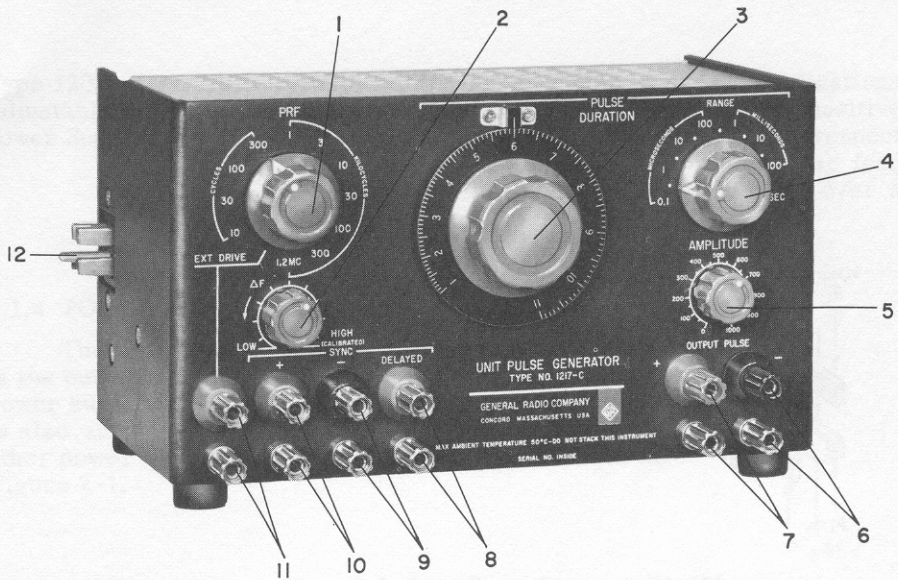

Figure 1-1. Type 1217-C Unit Pulse Generator.
See Figure 1-1 and Table 1-1 for the location and the description of the controls and connectors used on the Type 1217-C.
Pulse repetition frequency is adjusted by the PRF controls (1 and 2, Figure 1-1), over a range of 2.5 cps to 1.2 Mc. The PRF switch is calibrated to indicate prf correctly only when the  $\Delta F$  control is fully clockwise. When the  $\Delta F$  control is fully counterclockwise, the prf is lowered well below the next lower PRF switch setting. The range of adjustment of the  $\Delta F$  control is more than enough to span any one of the ranges set by the PRF switch, and thus affords continuous coverage of the prf range of 2.5 cps to 1.2 Mc. It is important to remember, however, that the only calibrated frequencies are those indicated by the PRF switch positions, and that these are accurate only when the  $\Delta F$  control is fully clockwise.
Duration of the main pulse is adjusted by the PULSE DURATION controls (3 and 4, Figure 1-1). The RANGE switch (4) selects one of seven decade ranges and the range selected is covered by the PULSE DURATION dial (3). This control consists of a knob linked by a slow-motion drive to a dial that is calibrated from 1 to 11 in tenths of a unit. The overlap beyond the decade span ensures continuous coverage of all durations.